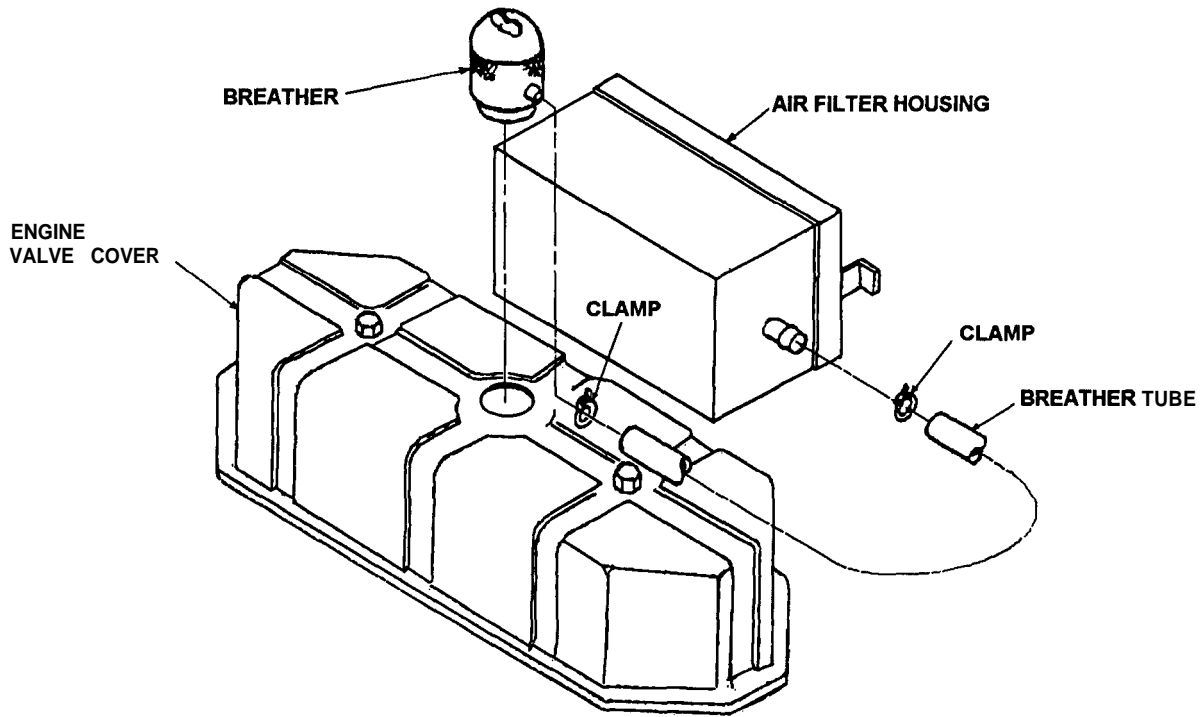
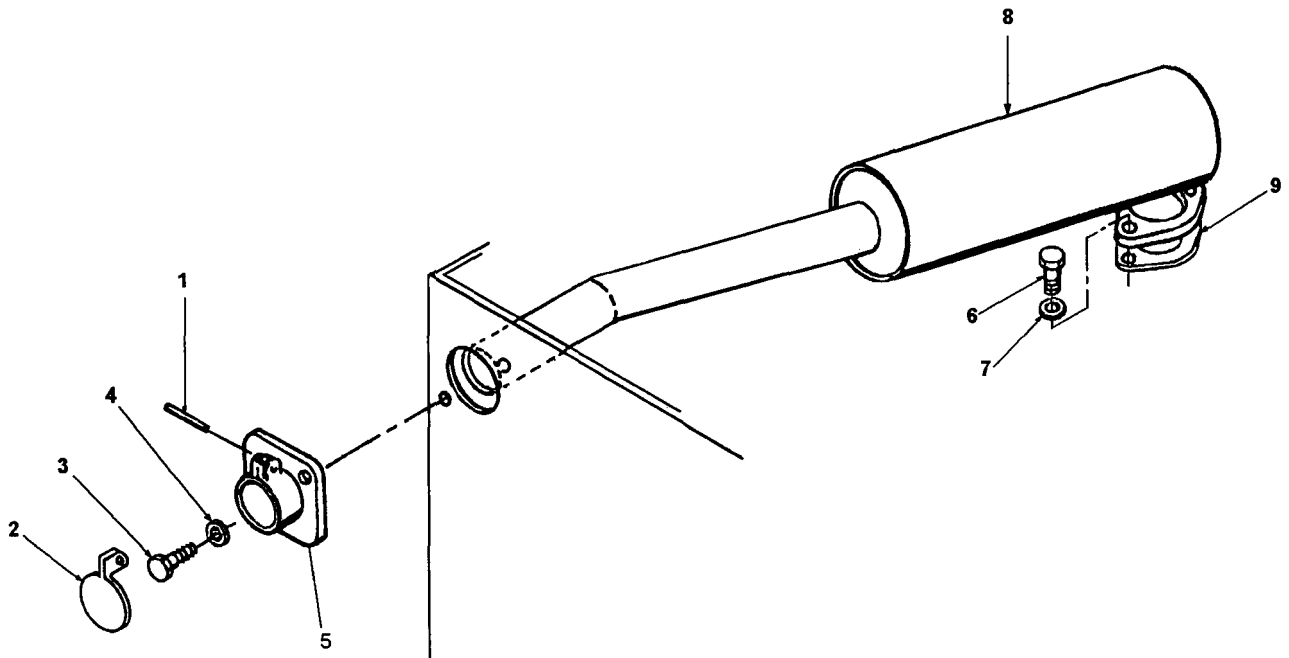

Figure 3-1. Inspecting the Breather and Breather Tube
Figure 3-2. Inspecting the Muffler
**3-6 BREATHER TUBE, EXHAUST PIPE AND MUFFLER (Figure 3-1 and Figure 3-2).**